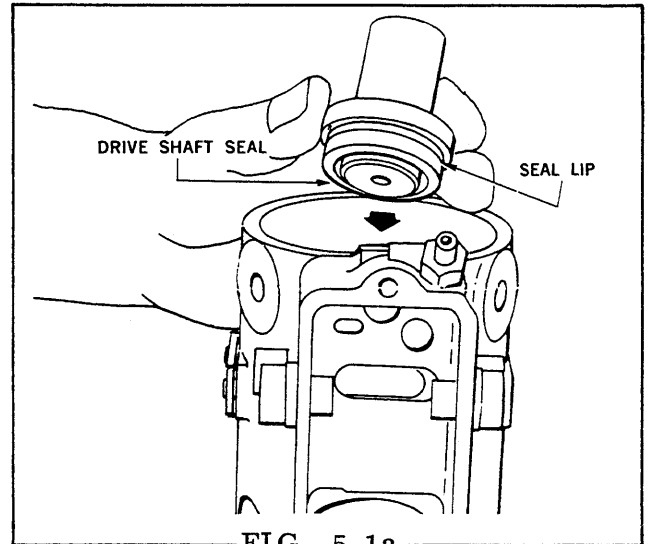
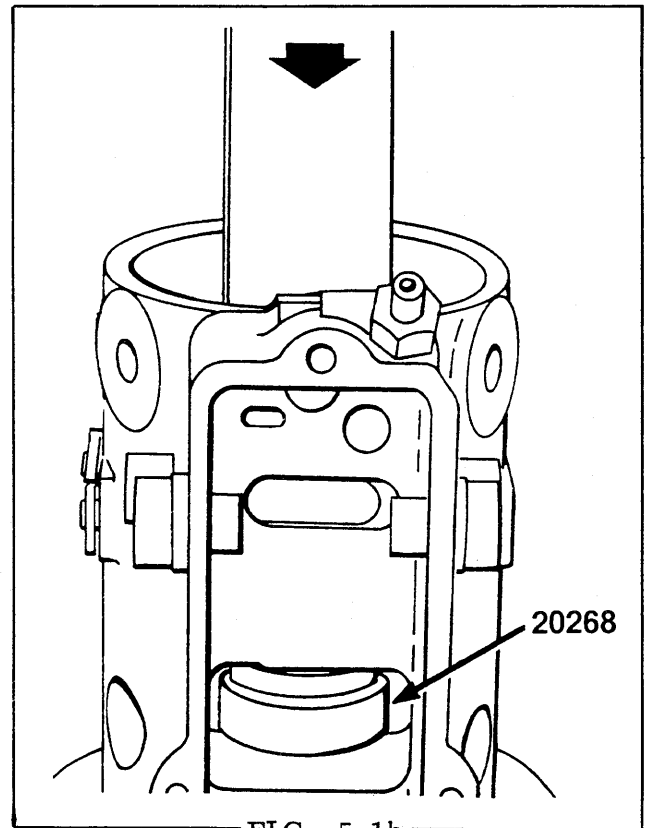

FIG. 5.1a
FIG. 5.1b
STEP 1 To install the drive shaft seals, place the pump housing (flange end down) on an arbor press. Apply a light coating of lithium base grease to the housing seal bore and the O.D. of the seals prior to assembly. If the housing seal bore is scored due to seal removal, apply a light coating of Gasoila sealing compound to the seal bore instead of grease. Place a new seal, with the seal lip facing the tool, on the short end of Tool No. 20268 (Fig. 5.1a). Press the seal into the housing until the tool bottoms against the housing (Fig. 5.1b). Note: This seal must not protrude into the housing cavity.